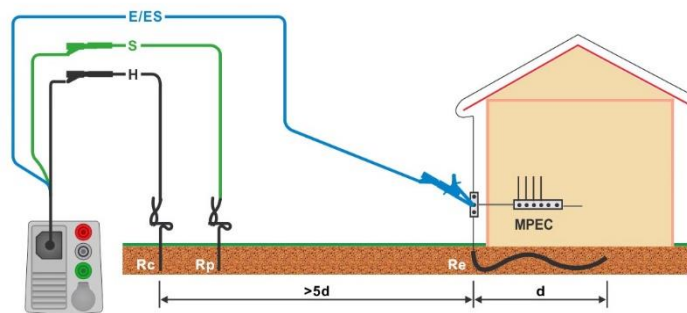
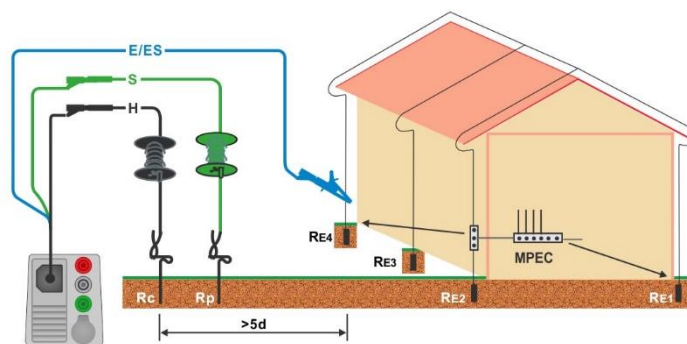

Figure 7.71: Resistance to earth, measurement of main installation earthing
Figure 7.72: Resistance to earth, measurement of a lighting protection system
- › Connect 3-wire test lead to the object under test, see **Figure 7.71** and **Figure 7.72**.